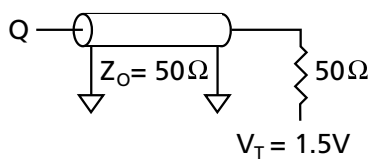
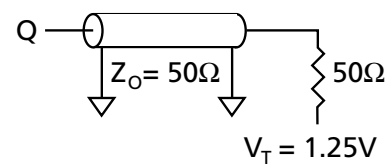

Figure 1
Figure 3
1. Test conditions as specified with the output loading shown in Figure 1 for 3.3V I/O ($V_{DDQ} = +3.3\text{V} +0.3\text{V}/-0.165\text{V}$) and Figure 3 for 2.5V I/O ($V_{DDQ} = +2.5\text{V} +0.4\text{V}/-0.125\text{V}$ for 2.5V I/O) unless otherwise noted.
Output load See Figures 1 and 2
Output load See Figures 3 and 4